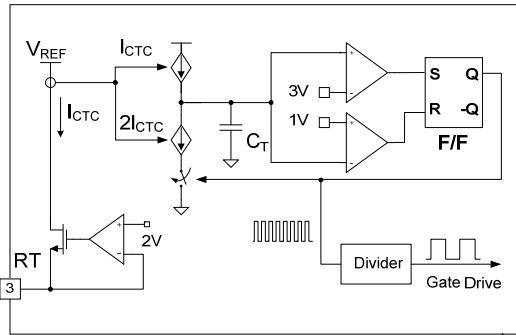

Figure 19. Current-Controlled Oscillator
**2. Internal Oscillator:** FSFR-HS series employs a current-controlled oscillator, as shown in Figure 19. Internally, the voltage of the RT pin is regulated at 2V and the charging / discharging current for the oscillator capacitor,  $C_T$ , is obtained by copying the current flowing out of the RT pin ( $I_{CTC}$ ) using a current mirror. Therefore, the switching frequency increases as  $I_{CTC}$  increases.